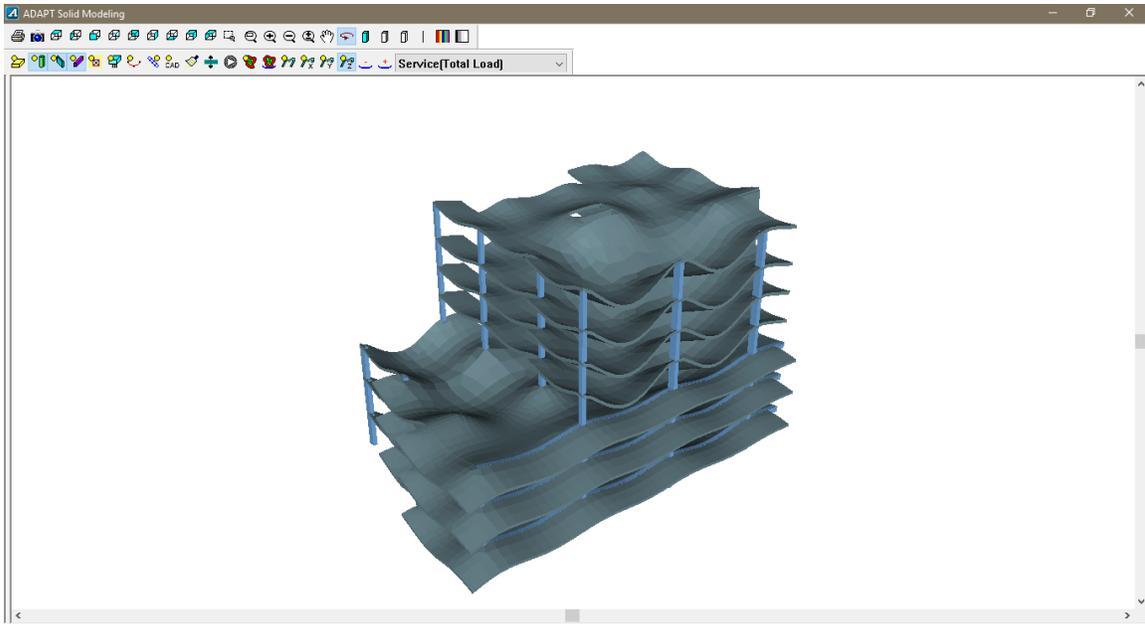

Figure 6-12
- Click on the *Solid Modeling Z-deflection Contour*  icon. The user should now see the model in a solid view showing the deflected shape in the Z-direction of all components as shown in **FIGURE 6-12**.